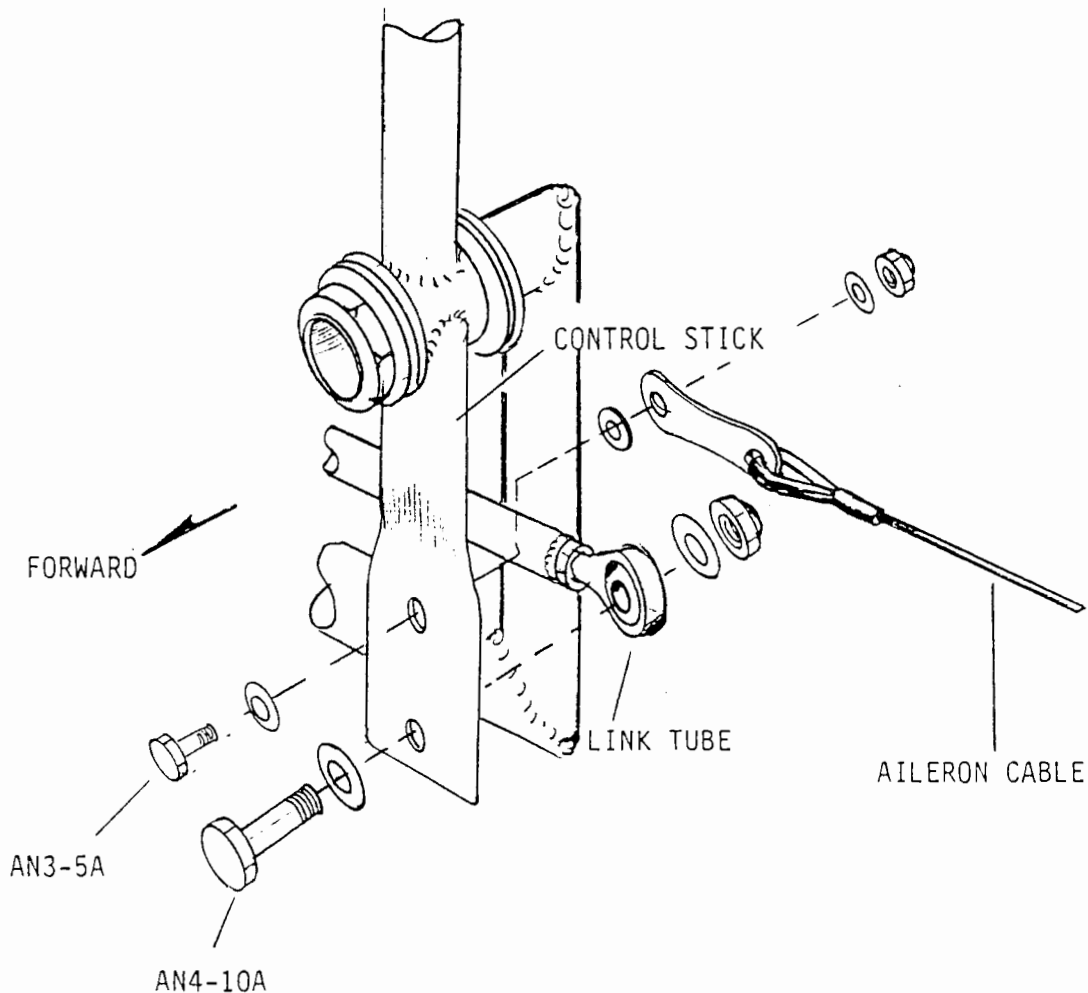

FIGURE 05-04
4. Assemble the control stick link tube as per the parts page. Assemble the unit to the control stick connector tubes. Adjust so the sticks will be parallel. Include the aileron cable as per Figure 05-04.